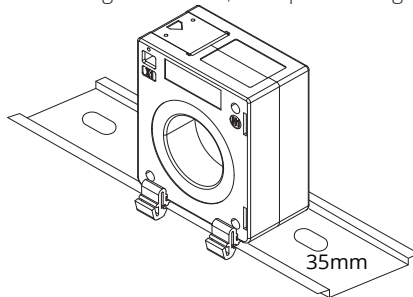

Figure 7 DIN Rail Mounting for AcuCT S165 Series
1. Clip the current transformer to the DIN rail slot on the housing and confirm it is fully seated, stable, and accessible for wiring and service, as depicted in Figure 7.